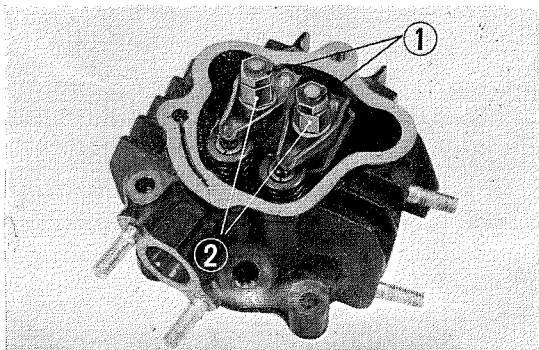

Fig. 23 ① Pivot adjuster nut ② Rocker arm pivot
4. Unscrew both pivot adjuster nuts and rocker arm pivots. (Fig. 23)